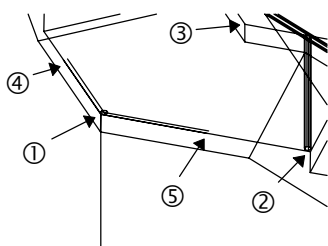
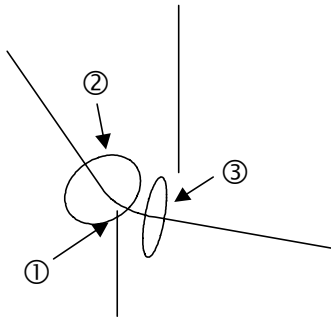

Figure 22
Figure 23
The next step is to construct the upstand element that will sit on the outer corner of the landing. Zoom in on the first landing, setting up a view like Figure 22. We will first set up the construction lines shown in that figure ...
- Also beginning at ①, construct two separate lines that terminate using the |NEArest| snap mode at roughly the positions ④ and ⑤ respectively (the length of these lines is not important).
- Construct a **20** radius circle, centred at the intersection of the two offset lines — *you should now have all the lines shown in Figure 22!* **Erase the two lines that intersect at the centre of the circle.**
- Now move the three lines that converge on ① so that the bottom point of the 900 long “vertical” line is positioned at the centre of the circle just created.
- Zoom in on the top of that re-positioned vertical line and use the *Fillet* command (still with radius 40) to construct a fillet arc between the two horizontal lines that converge at ① in Figure 23 — *now reset the fillet radius back to 0 since we won’t need that again!*
- Now re-position the UCS using the ZAxis option so that you can construct the circle at ② with radius 20 — then repeat that process to construct the 20 radius circle at ③.